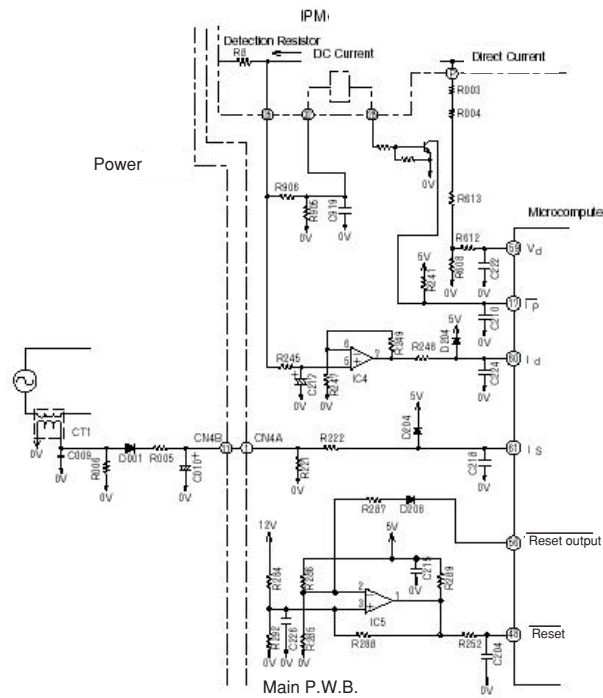

Fig. 6-2
ID OVL is watching and limits the compressor current through the detection resistor, which is built in IPM in order to control the compressor reliability. Since the compressor reliability is related with its speed, the ID OVL value is also linked with the compressor speed. FIG6-2 shows an ID OVL limitation curve.
Fig. 6-2. The filter consisting of R245 and C217 removes high harmonic frequencies from the voltage generated by the current flowing to Detection resistor; R245 and C217 average the voltage. This voltage is then input to IC4 pin (5) and supplied to microcomputer pin (60) . The microcomputer compares this input with the set value, and if the input exceeds the set value, it enters overload control status.